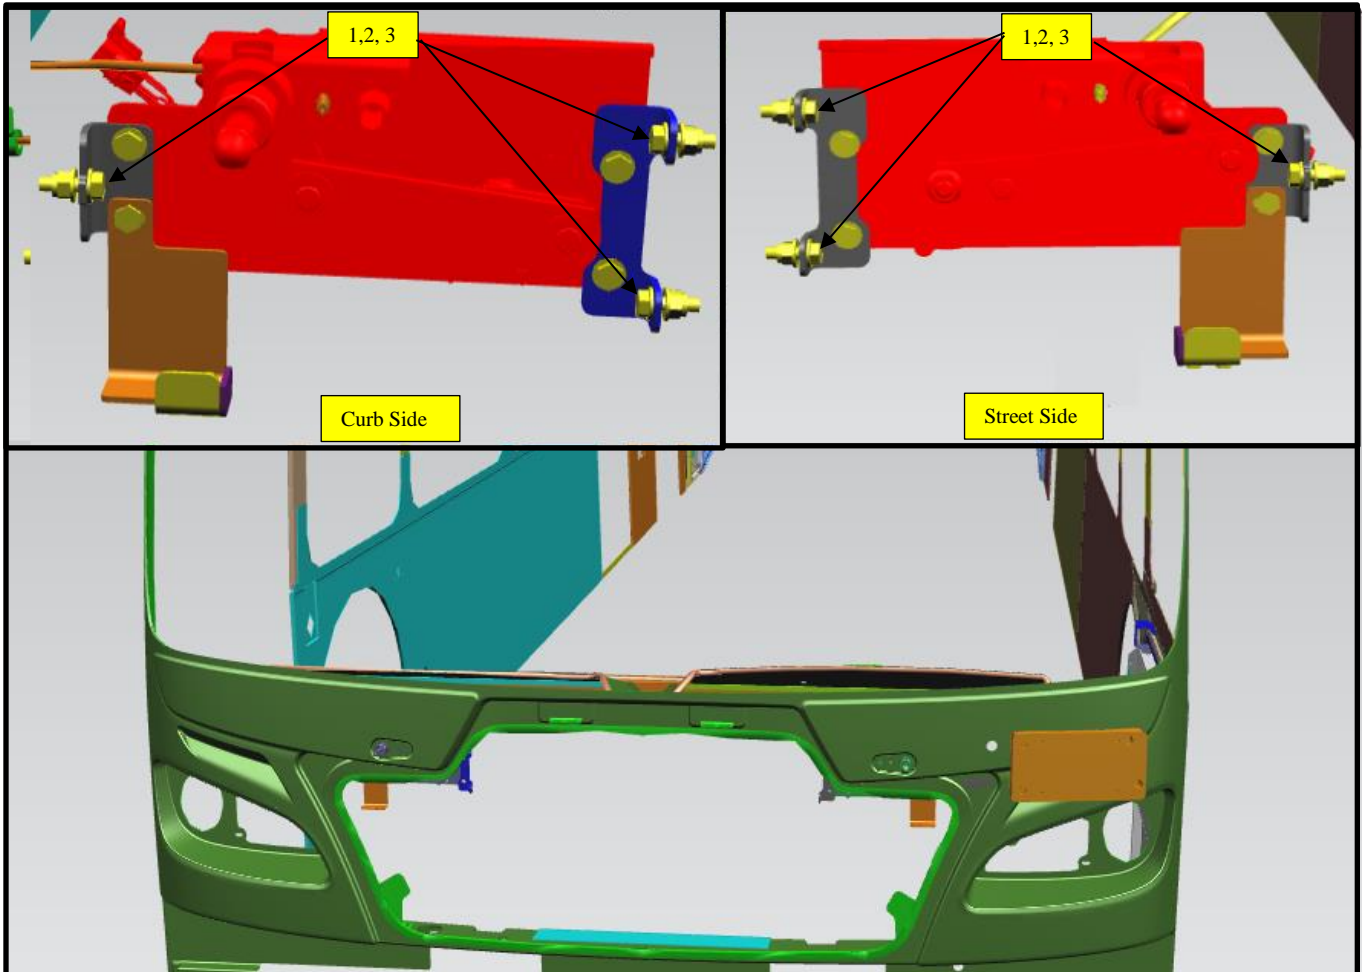

Figure 2: Wiper motor removal location reference.
11. Gain access to the wiper motors and remove Items #1 Bolts, #2 Washers and #3 Nuts. Discard hardware. See figure 2.